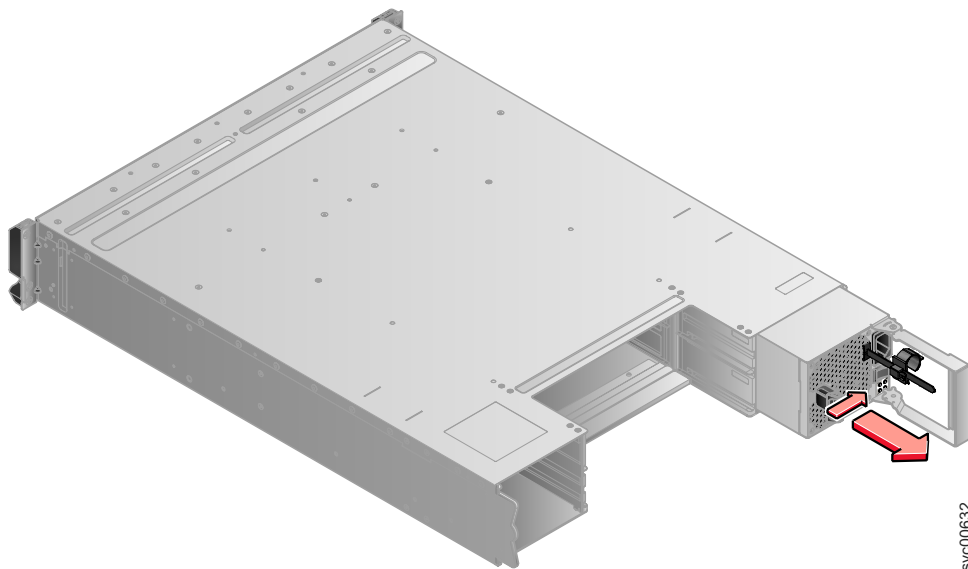

Figure 58. Using the handle to remove a power supply unit
- b. Grip the handle to pull the power supply out of the enclosure as shown in Figure 58.